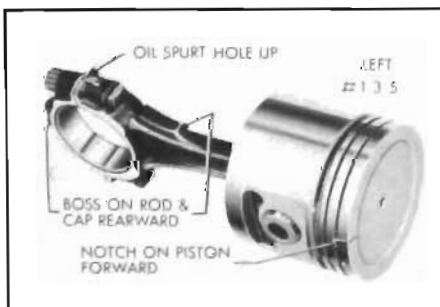

Figure 2-86—Left Bank Piston And Rod Assembly
2. If the piston and rod assembly is to be installed in the left bank, the assembly must be made as shown in Figure 2-86.